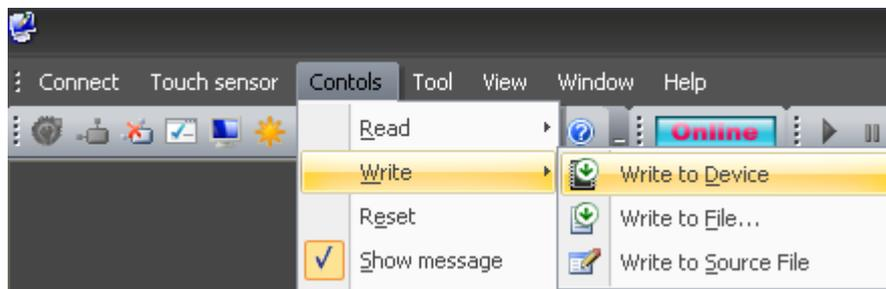

Figure 2-14 Write to Device
- (4) To enable the values input to Threshold, write parameters to data flash of the MCU. In order to write parameters to data flash, select Controls → Write → Write to Device as shown in Figure 2-14, or click the Write parameters to Device icon.